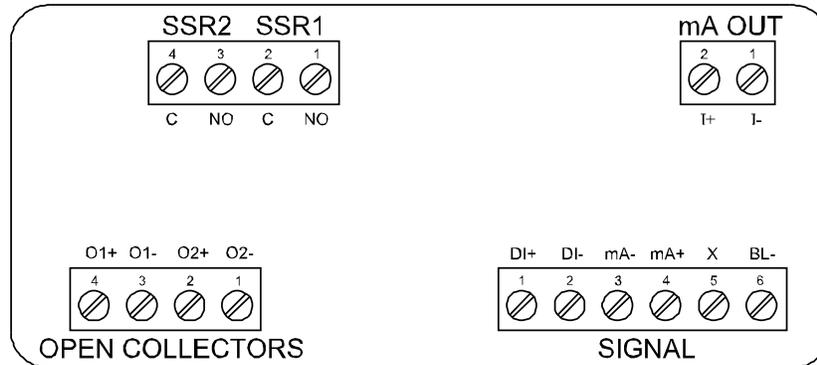

Figure 4. Connector Labeling for Fully Loaded Meter
Signal connections are made to a six-terminal connector labeled SIGNAL on Figure 4. The following figures show a 4-20 mA current loop connected to the meter. The first figure shows the connection without the backlight and the second shows the connection with the backlight (the backlight may also be disabled/enabled in the SYSTEM menu). The meter is powered by the 4-20 mA current loop. There are no switches or jumpers to set up for the input. Setup and programming is performed through the front panel buttons or PC-based software.
Relay connections are made to a four-terminal connector labeled SSR1 and SSR2 in Figure 4. Each relay's C terminal is common only to the normally open (NO) contact of the corresponding relay.